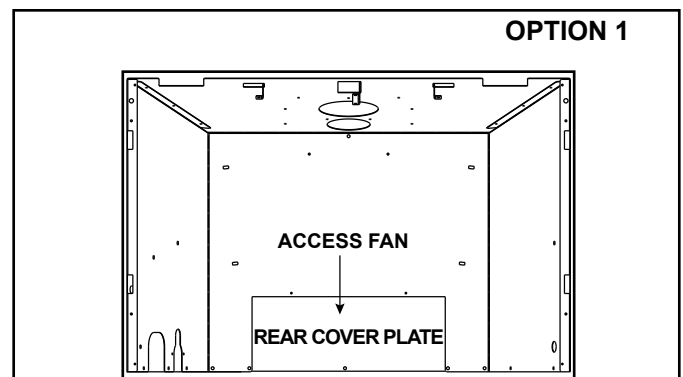

Figure 6.3 Cover Plate Removed (Option 1)
→ Figure 6.3 IntelliFire Touch 2.0 Wiring Diagram - RUBYP35I
2. Remove the five screws on the rear cover plate. See Figure 6.3.